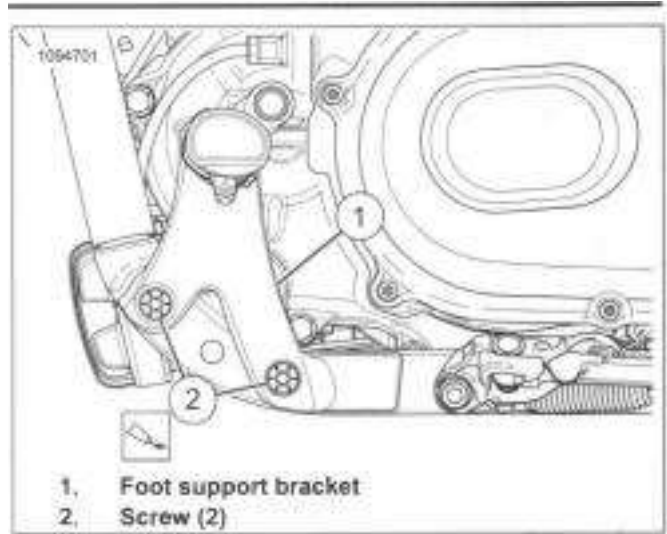

Figure 3-143. Left Foot Support Bracket (Typical)
1. See Figure 3-143. Remove foot support bracket.
- a. Remove screws (2).
- b. Remove foot support bracket (1).
1. See Figure 3-143. Install foot support bracket.
- a. Apply threadlocker to screws (2).